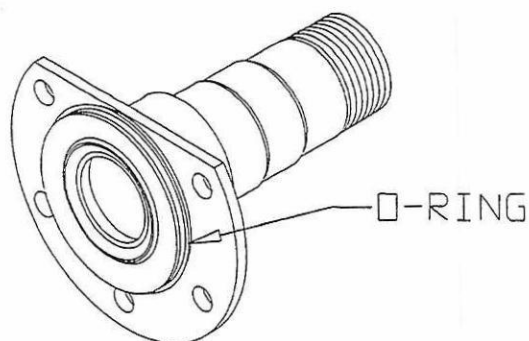

Figure 4. Spindle o-ring.
5. Apply a light coating of oil to o-ring on spindle (Figure 4).